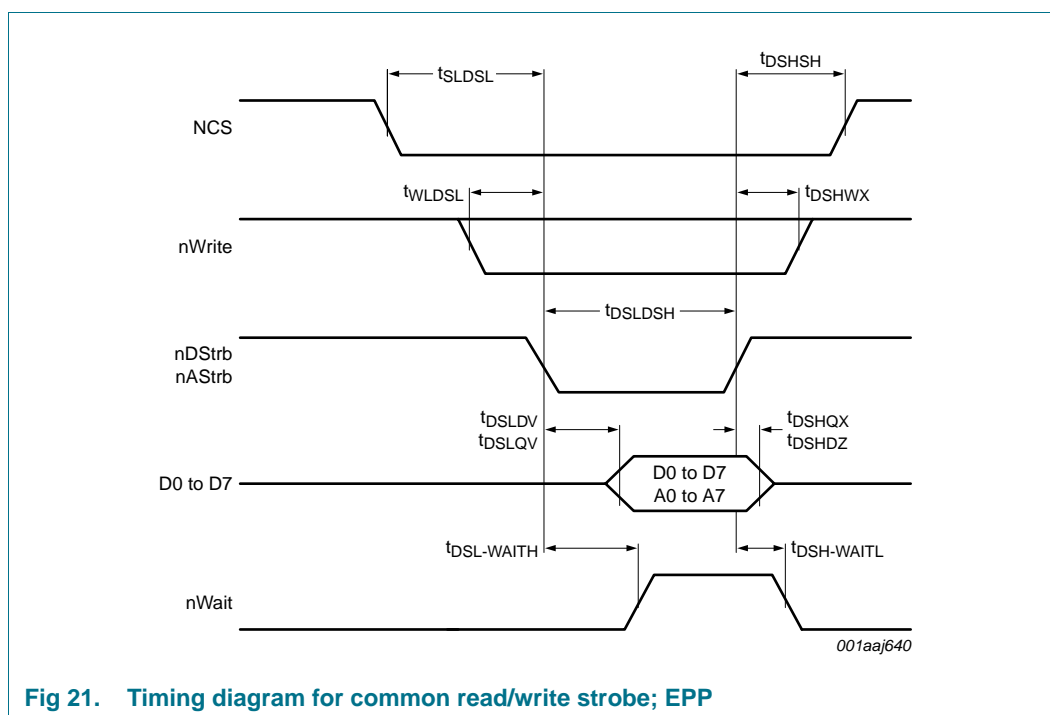

Fig 21. Timing diagram for common read/write strobe; EPP
**Remark:** Figure 21 does not distinguish between the address write cycle and a data write cycle. The timings for the address write and data write cycle are different. In EPP mode, the address lines (A0 to A2) must be connected as described in Section 9.1.3 on page 8.